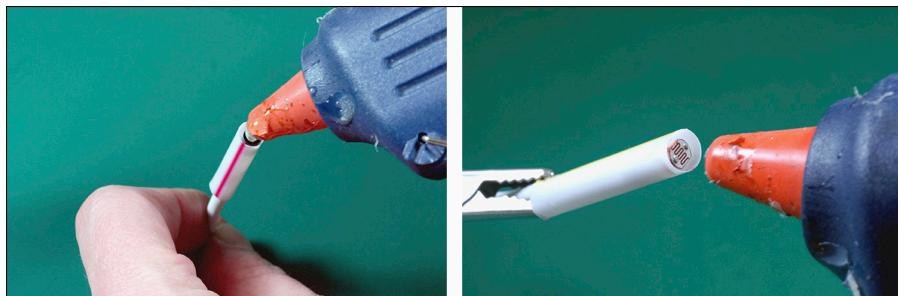

Figure 12-9:
10. Slip your sensors into the straws so that the sensor is near the end of the straw. Apply a bit of hot glue to the end of each sensor, as shown in Figure 12-9.